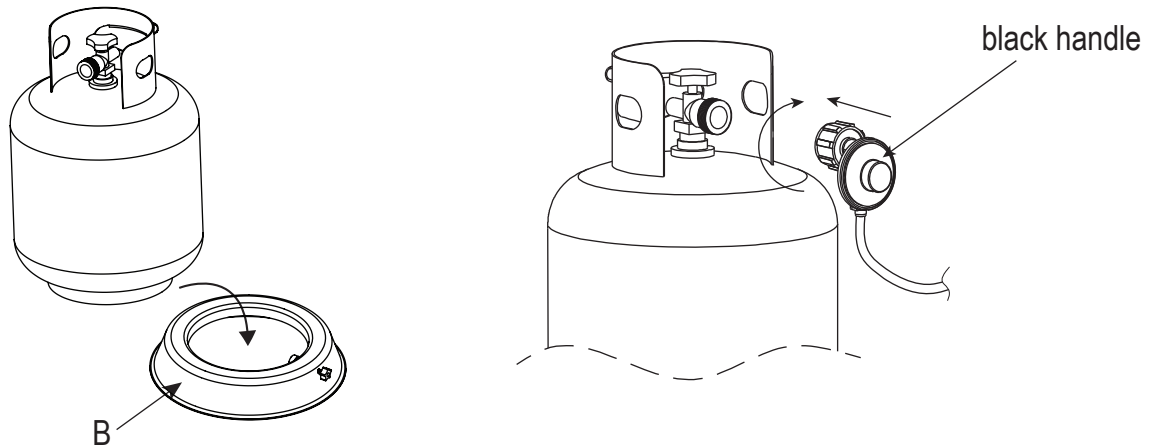

Figure 3
3. Put the gas tank in the tank seat (B), connect the regulator, screw the black handle clockwise to tighten, turn the black handle counterclockwise to remove. The hose must not turn upside. The knob on the control panel is turned all the way to the "OFF" position when the fireplace is NOT in use (see Figure 3).